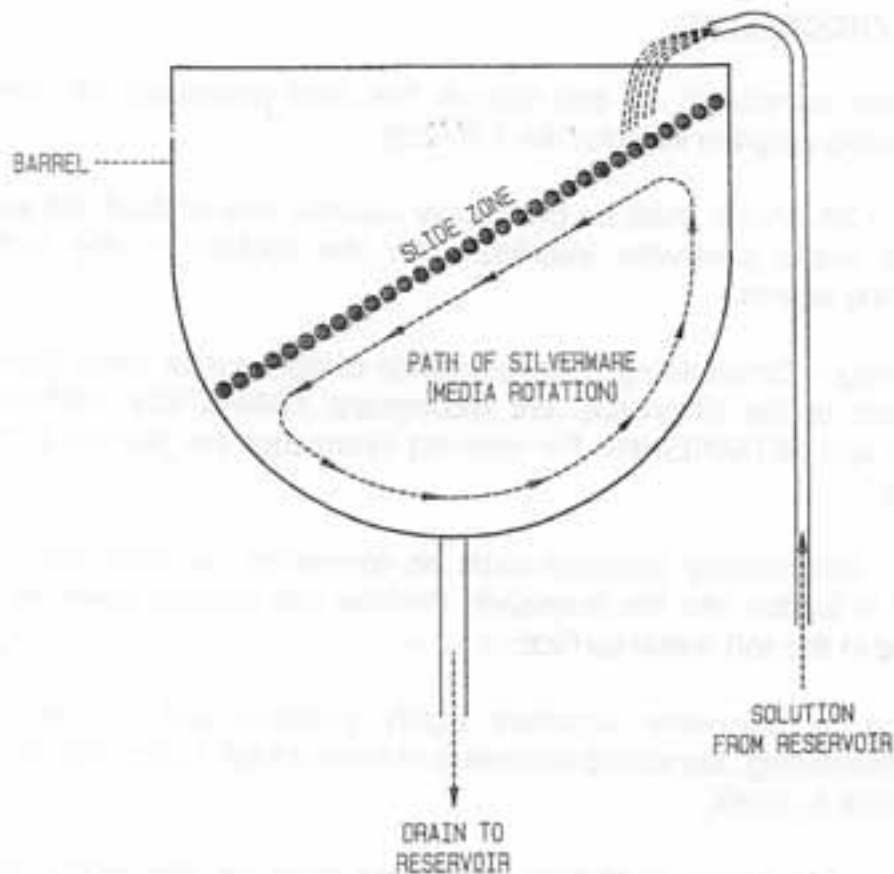

FIGURE 4
The Model VM-288 Burnisher uses burnishing balls consisting of highly polished 3/16" and 1/4" steel balls. This mass of steel balls is put into motion by the vibrations of the burnishing barrel. This causes the mass to be lifted up on one side of the barrel while being pushed down on the other side. The result is a continuous sliding of the mass from the high to the low side creating an area called the "slide zone". It is in this zone that individual steel balls have the greatest striking force for burnishing (See Figure 4 for a diagrammatic description).
- 2.** The pulleys on the shaft and motor are reversed. (See Figure 4 for correct positioning.) However, these pulleys are intentionally reversed for 50 cycle operation.
Figure 4 shows the correct position of the balls while the machine is running. (See also Section 5, "Barrel – Problem C:")